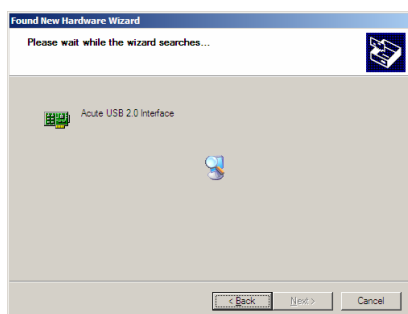

Figure 3
4. Windows will search for a proper driver for the DS-1000 (Figure 3); this could take a while.